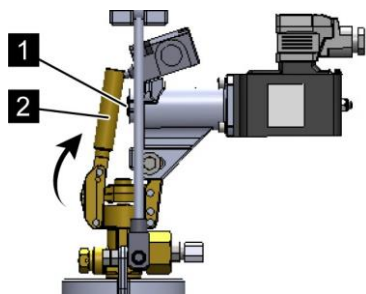

Fig. 133: Close valve
2. → By turning the adjustment wheel, push the release pin of the clamping device far enough into the housing that the locking bolt (Fig. 133/1) can be pushed in the opposite direction and lock the release pin.
3. → Swing the valve lever (Fig. 133/2) upward (Fig. 133/arrow).